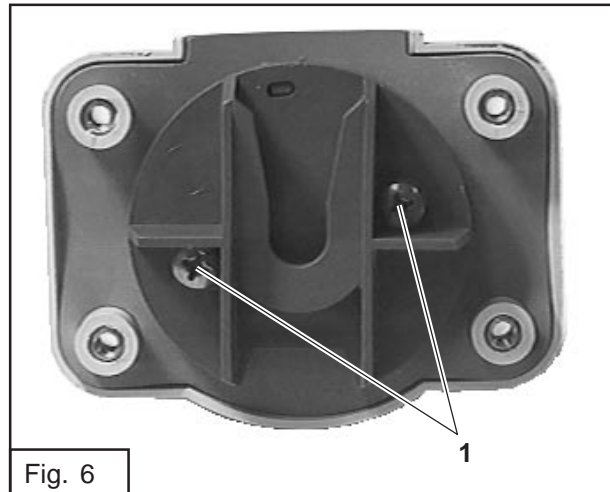

Fig. 6
- For dismounting the bottom console, unscrew the plunge holder (1). (Fig. 6)